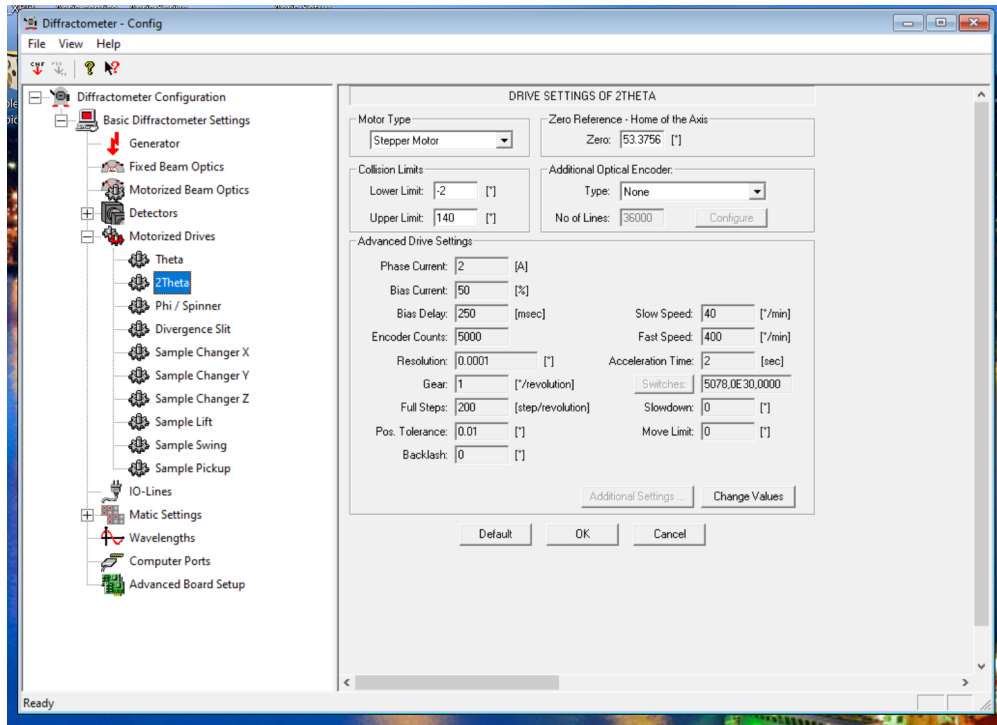

Figure 29. Configuration 2Theta page
11. Enter the XRD's Current Zi into the QAQC verification spreadsheet (Figure 25B). The current Vi value is found in the Configuration program on the desktop (icon Figure 28). Open Config program, Password is: **DIFFRAC**. Click **Motorized Drives > 2 Theta**. Use the value under **Zero Reference - Home of the Axis** (Figure 29).
2. In the left side panel navigate to **Motorized Drives > 2Theta** (Figure 29). In this window go to **Zero Reference - Home of the Axis**. Enter the corrected ZI value from the excel spreadsheet into the 'Zero' space (Figure 29).